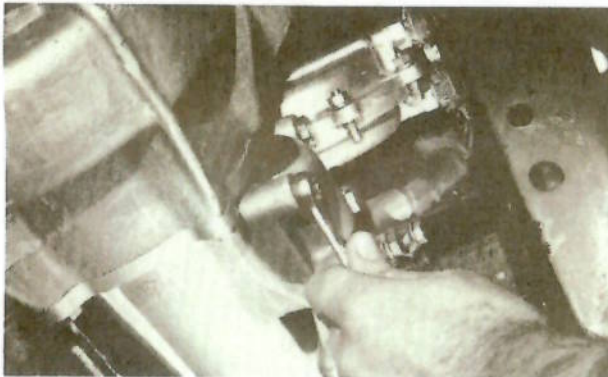

FIG. 1 — REMOVING THE DIAPHRAGM CHAMBER FROM THE TRANSFER FRONT DRIVE EXTENSION HOUSING.
7. Remove the four hex-head bolts and wave washers that secure the diaphragm chamber assembly to the front drive extension housing, (Fig. 1). Then, remove the chamber assembly and packing from the housing.